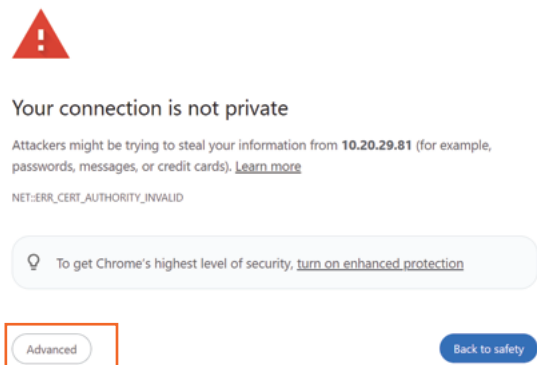

Figure 1
- Click Advanced to proceed Fig. 1